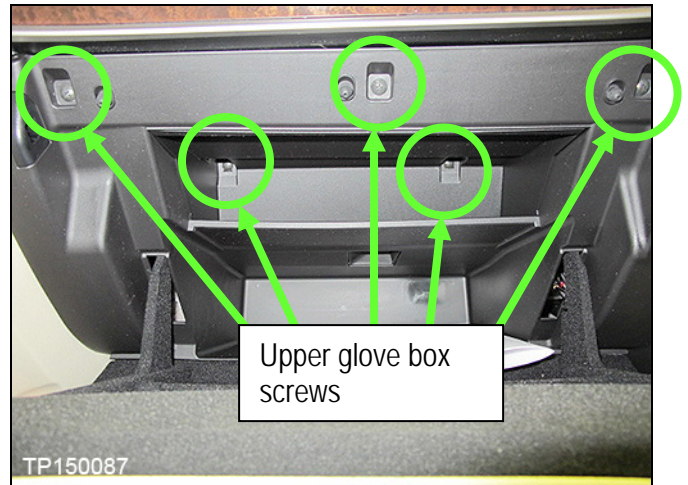

Figure 15
- e. Install the 5 upper glove box retaining screws removed in step 6 (Figure 15).